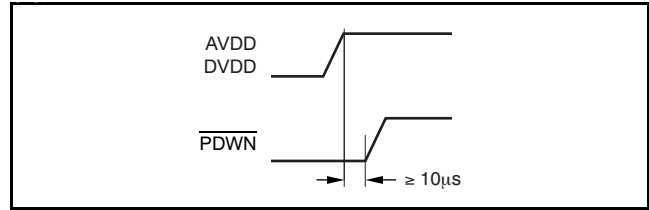
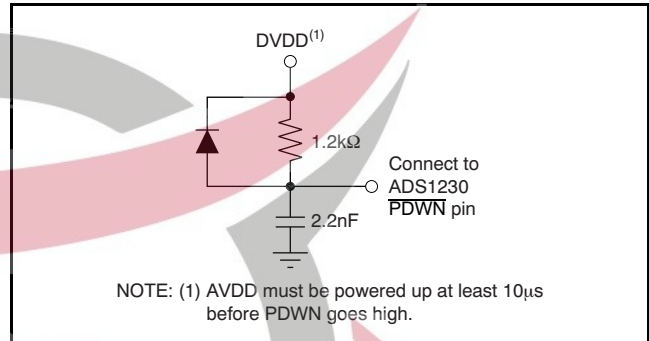

Figure 30. Power-Up Timing Sequence
Figure 31. RC Delay Circuit
When powering up the ADS1230, AVDD and DVDD must be powered up before the PDWN pin goes high, as shown in Figure 30. If PDWN is not controlled by a microprocessor, a simple RC delay circuit must be implemented, as shown in Figure 31.
- Added *Power-Up Sequence* section with new text and two new figures (*Figure 30* and *Figure 31*) **19**